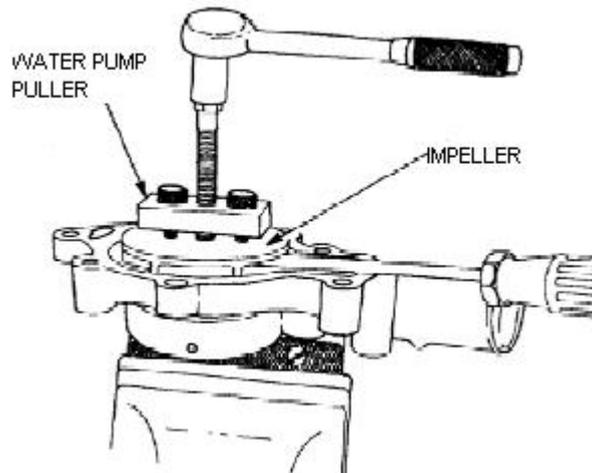

Figure 60 Removing the Water Pump Impeller
- c. Using the water pump puller (Table 3, Serial 13), remove the impeller from the pump shaft (Figure 60).